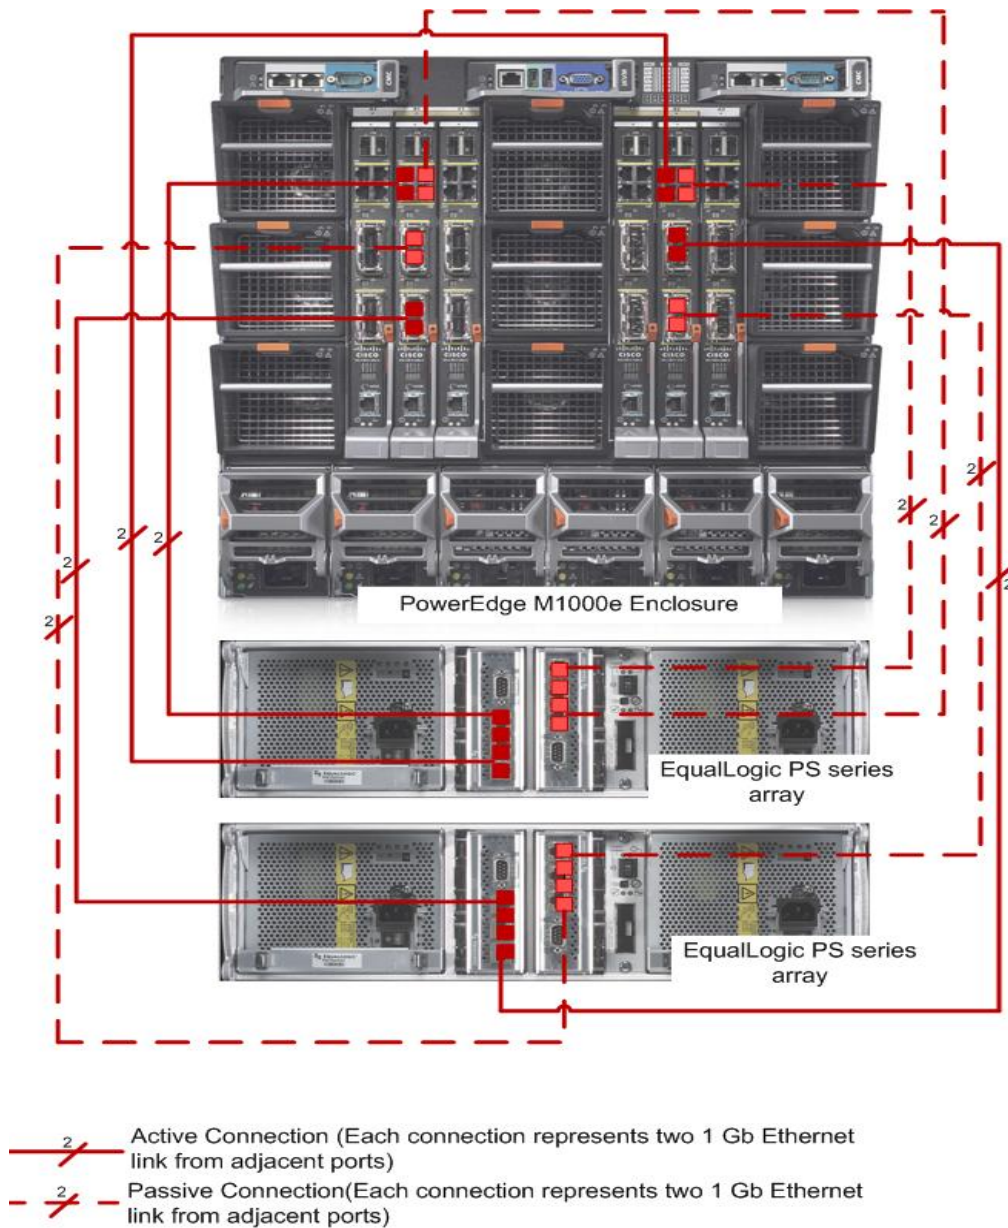

Figure 9: Directly connecting Storage Array to the I/O Modules
- If both the internal I/O modules and the external switches are stacked, then only a single Port-Channel connection could be active between the two virtual switches. Instead, to allow for more bandwidth, the internal I/O modules should not be stacked, and each I/O module should have a separate Port-Channel for connection to the external virtual switch. (See figure 9)